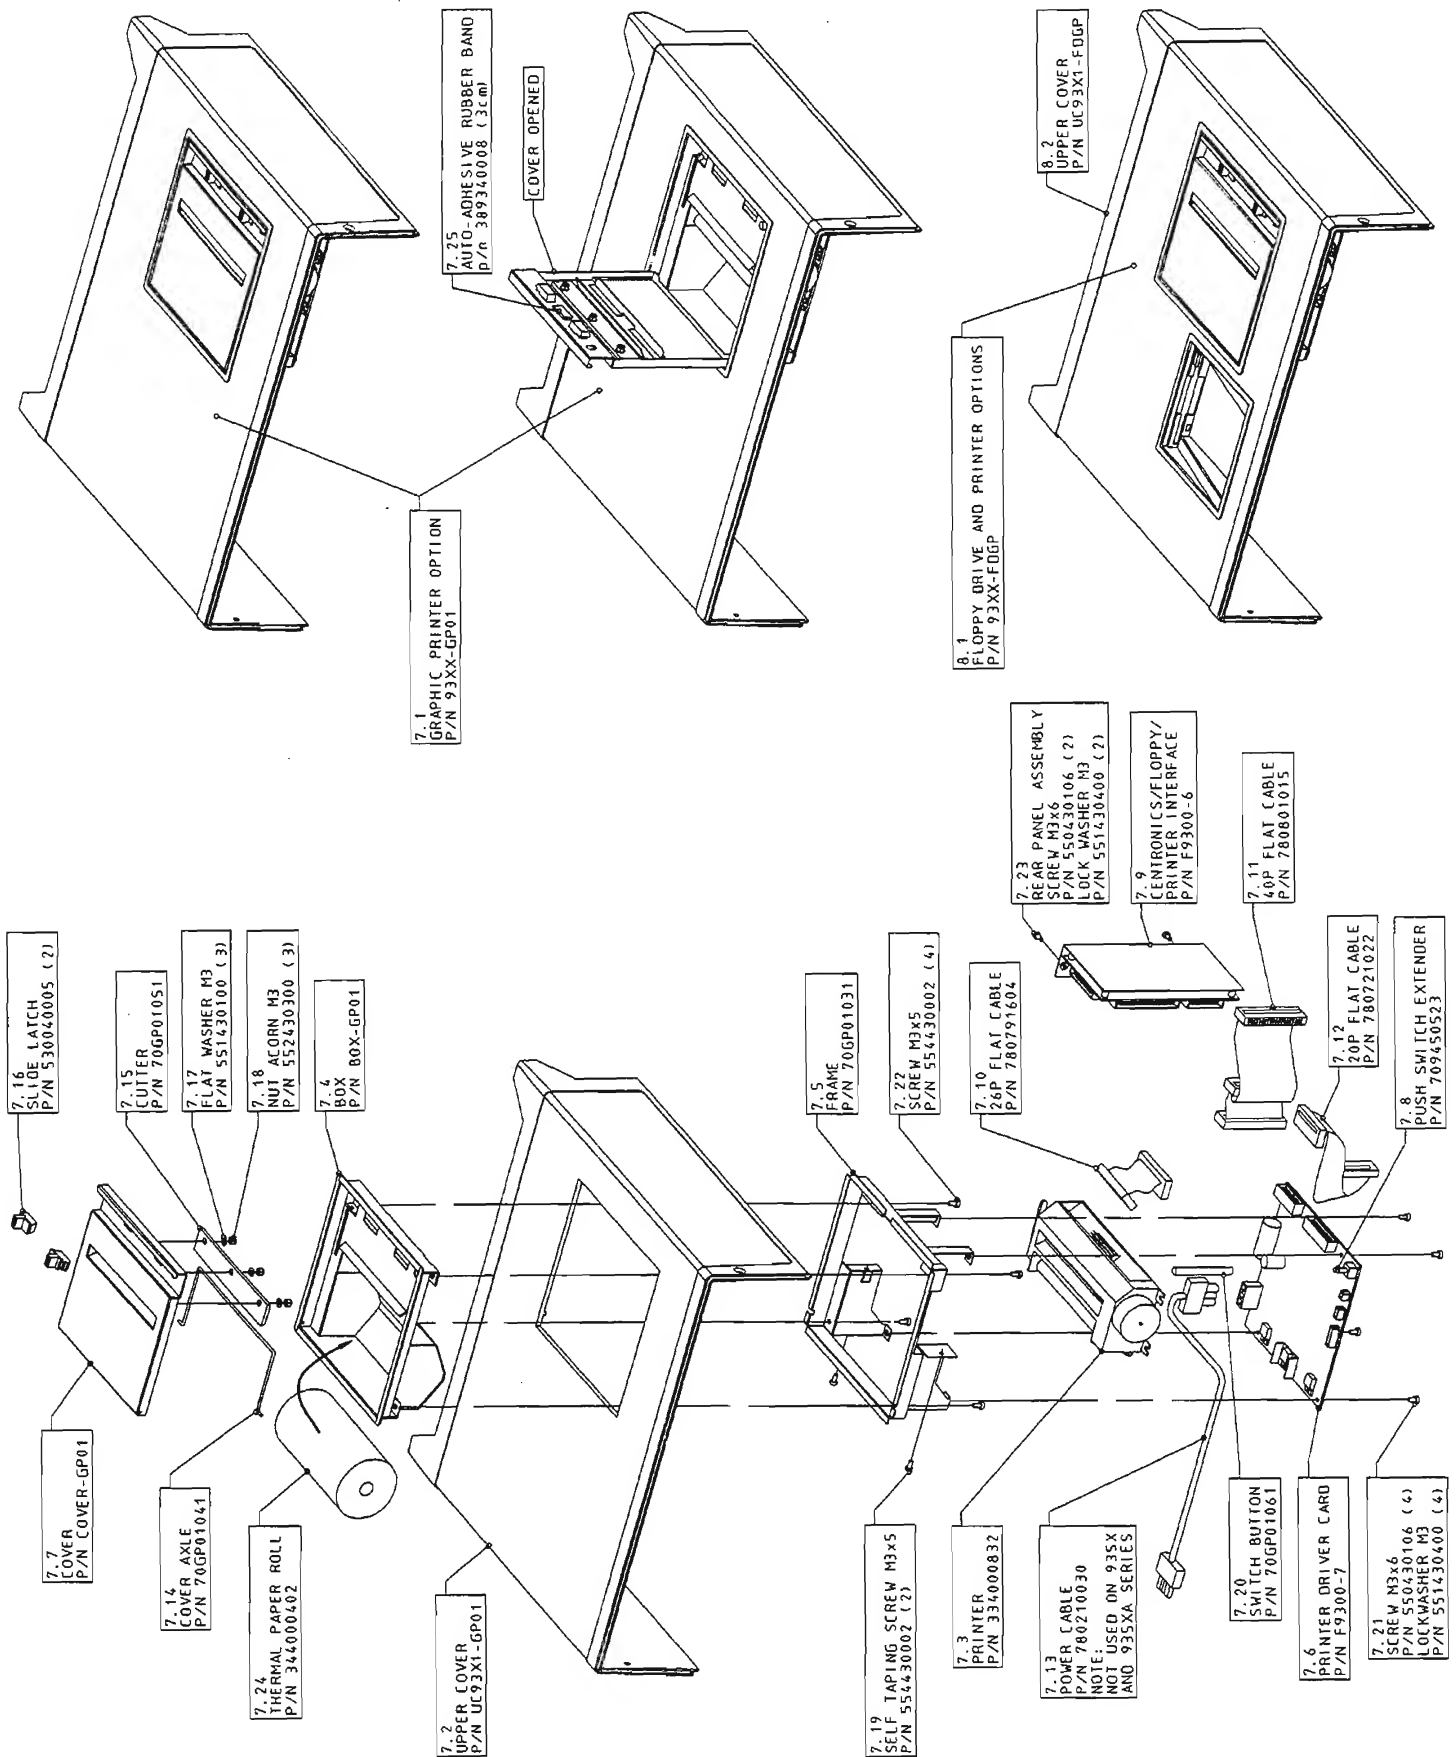

Figure 6.7 : Graphic Printer Assembly
- Disconnect the power cable from the PS9351 power supply (see figure 6.7).
- Disconnect the flat ribbon cable (780791604) from the F9300-7 controller (see figure 6.7).